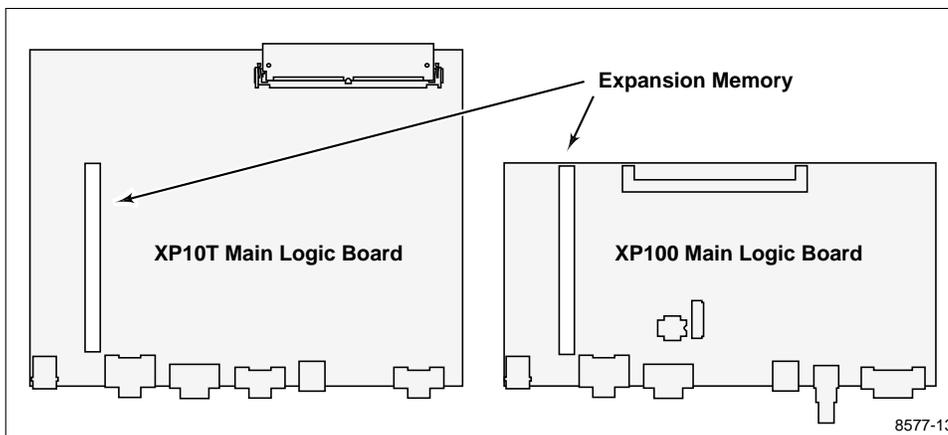
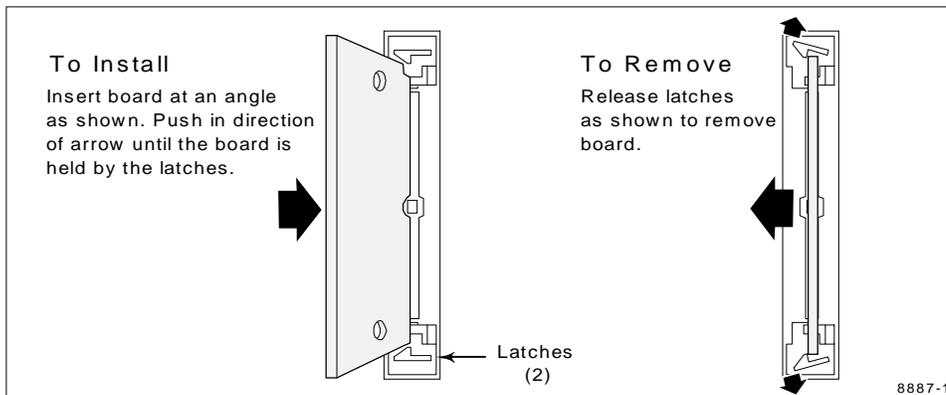

Figure 15. XP10T and XP100 Expansion Memory Socket Location
Figure 16. Installing and Removing XP10T or XP100 Expansion Memory
1. Locate the expansion memory socket (shown in Figure 15) and install the new memory board as shown in Figure 16 (if a memory board is currently installed in the socket, remove it first). The numbered arrows in the figure show the sequence of operations.